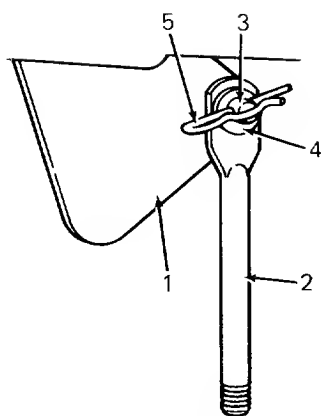

Figure 44
2. Lower the lift handle to position number 1. Refer to Figure 44 and secure each of the rear lift links to the lift carriage lift pins using a flat washer and hairpin cotter.